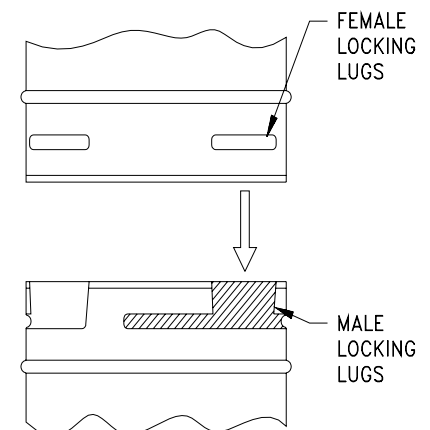

Figure 3: Twist-Lock Piping
DuraVent and American Metals pipe and fittings are designed with special twist-lock connections. Twist-lock procedure is as follows: four (4) indentations, located on the female ends of pipes and fittings are designed to slide straight in to the male ends of the adjacent pipes and fittings, by orienting the four pipe identifications so that they match and slide into the four entry slots on the male ends (Figure 3).